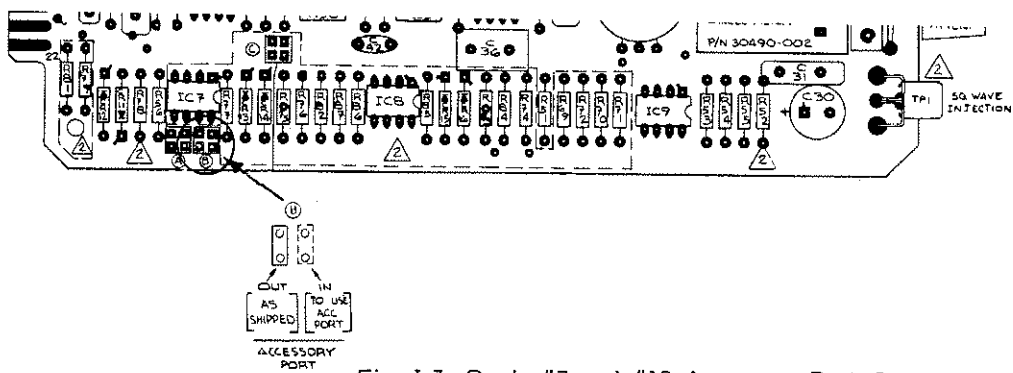

Fig. I-3: Cards #7 and #10 Accessory Port Jumper
- 4) Remove Cards #7 and #10 and make sure that jumper "B" is strapped for ACCESSORY PORT OUT, as in Fig. I-3.
Remove Cards #7 and #10, and strap jumper "B" on each card for ACCESSORY PORT IN, following Fig. I-3. Replace the cards in their slots.